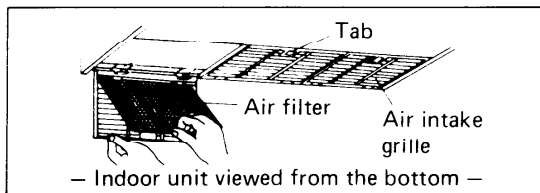

Fig. 14
- b) Remove the air intake grille and air filter. Fig. 14